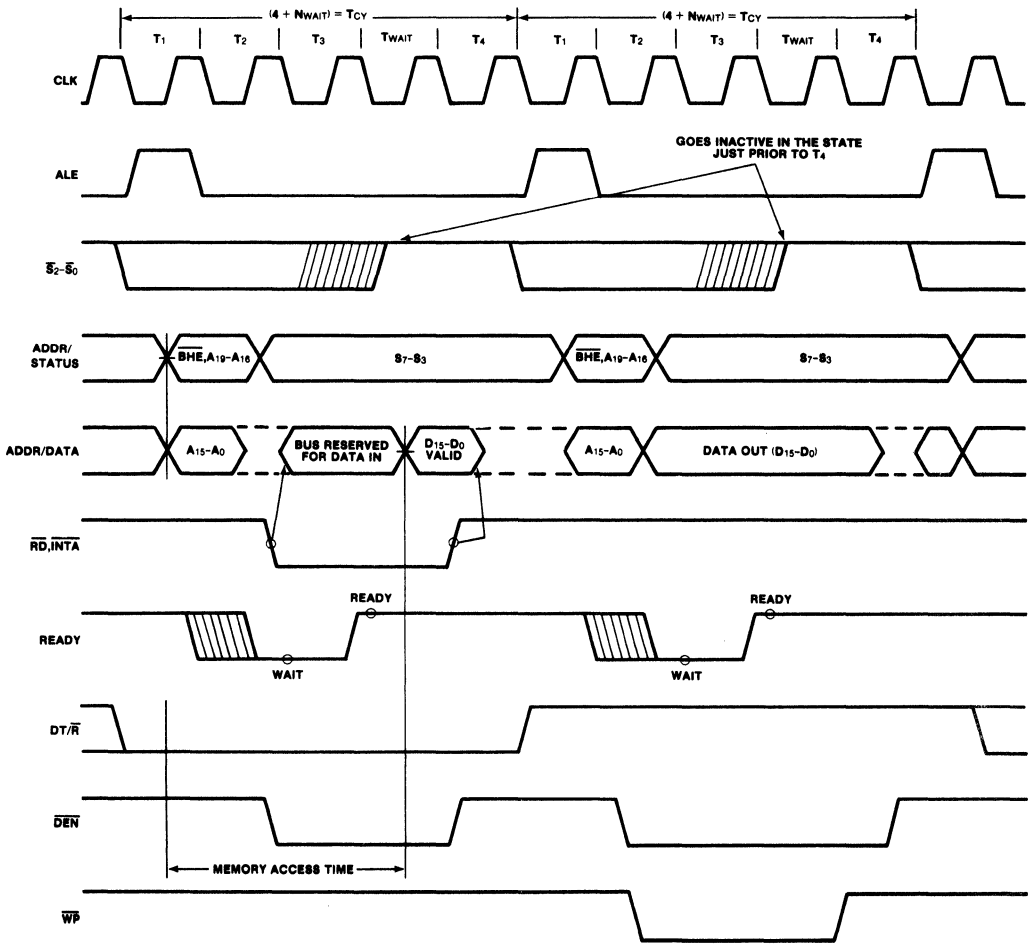
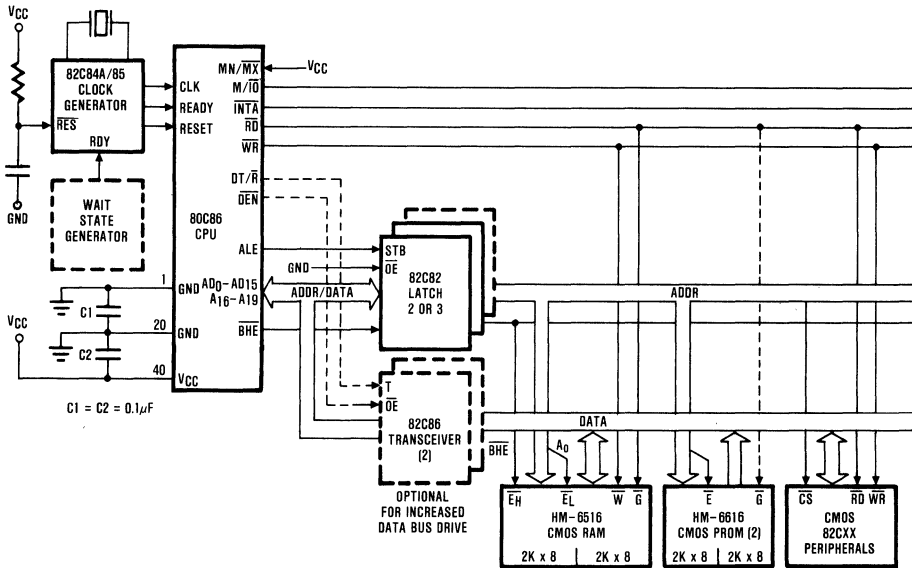

FIGURE 3. BASIC SYSTEM TIMING
FIGURE 6A. MINIMUM MODE 80C86 TYPICAL CONFIGURATION
The demultiplexed mode requires two 82C82 latches (for 64K addressability) or three 82C82 latches (for a full megabyte of addressing). An 82C86 or 82C87 transceiver can also be used if data bus buffering is required. (See Figure 6a.) The 80C86 provides DEN and DT/R to control the transceiver, and ALE to latch the addresses. This configuration of the minimum mode provides the standard demultiplexed bus structure with heavy bus buffering and relaxed bus timing requirements.
Each processor bus cycle consists of at least four CLK cycles. These are referred to as T₁, T₂, T₃ and T₄ (see Figure 3). The address is emitted from the processor during T₁ and data transfer occurs on the bus during T₃ and T₄. T₂ is used primarily for changing the direction of the bus during read operations. In the event that a "NOT READY" indication is given by the addressed device, "Wait" states (TW) are inserted between T₃ and T₄. Each inserted wait state is the same duration as a CLK cycle. Periods can occur between 80C86 driven bus cycles. These are referred to as "idle" states (T_i) or inactive CLK cycles. The processor uses these cycles for internal housekeeping and processing.
Typical system configurations for the processor operating in minimum mode and in maximum mode are shown in Figures 6A and 6B, respectively. In minimum mode, the MN/MX pin is strapped to VCC and the processor emits bus control signals (e.g. \overline{RD} , \overline{WR} , etc.) directly. In maximum mode, the MN/MX pin is strapped to GND and the processor emits coded status information which the 82C88 bus controller used to generate MULTIBUS™ compatible bus control signals. Figure 3 shows the signal timing relationships.